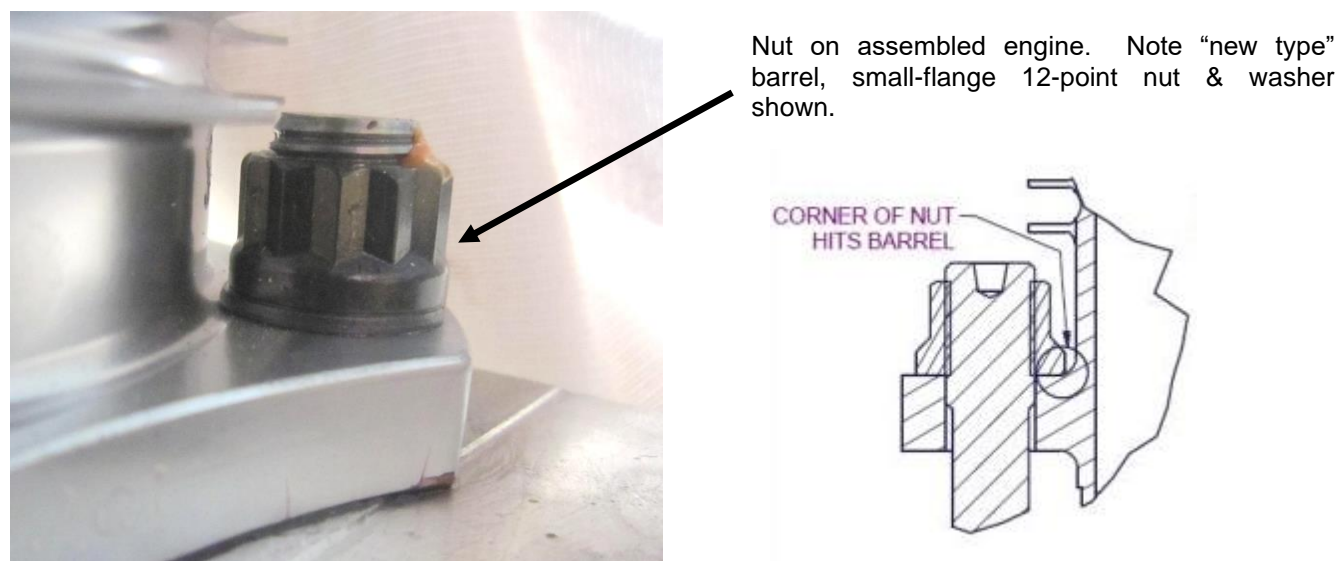

Figure 144 – Through Bolt Nut Installation Detail
- Check that all nuts and washers are clear of the radius on the base of the cylinder barrel. Figure 144 (right) shows how using certain (large-flange) nuts can result in the nut hitting on the radius at the cylinder base. To avoid this it is necessary to use a “Small-flange” nut per Figure 144 left, or a nut which has been modified – the diameter of the nut base can be reduced in a lathe. This requirement also applies to the washers used: these parts are custom made for Jabiru from hardened steel – substitutes must not be used.